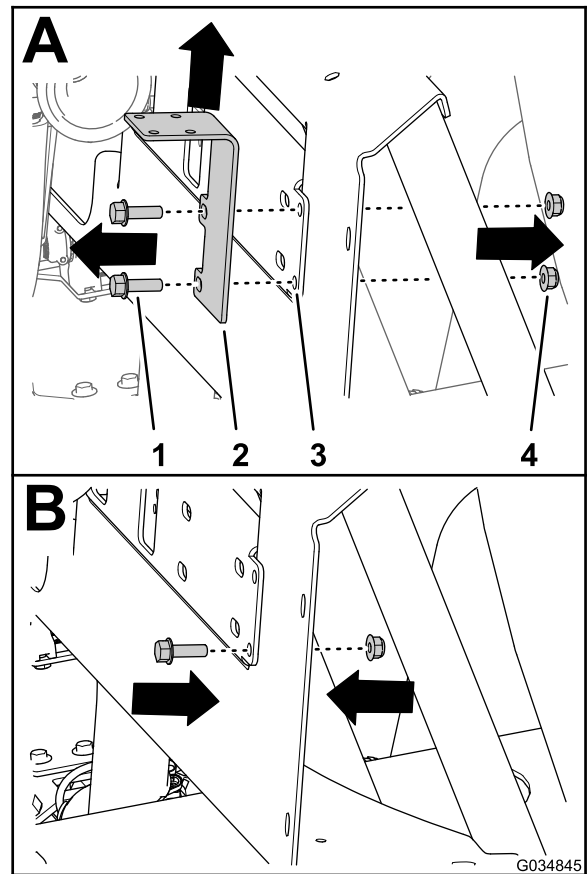

Figure 45
5. Remove the 2 flange head bolts (5/16 x 1 inch) and 2 flange locknuts (5/16 inch) that secure the support bracket for the bypass-shutoff valve to the manifold mount (A of Figure 45), and remove the shutoff-valve bracket.
6. Assemble a flange head bolt (5/16 x 1 inch) and flange locknut (5/16 inch) to the manifold mount (B of Figure 45) at the lower hole position for the shutoff valve bracket.
3. Secure the pressure transducer and manifold to the slot in the manifold mount with a R-clamp and the previously removed (Figure 45) flange head bolt (1/4 x 3/4 inch) and flange locknut (1/4 inch).